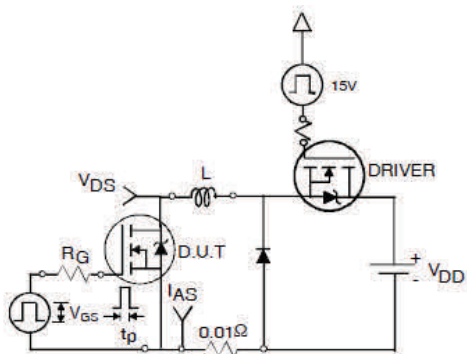

Fig 18a. Unclamped Inductive Test Circuit
3. Equation below based on circuit and waveforms shown in Figures 18a, 18b.